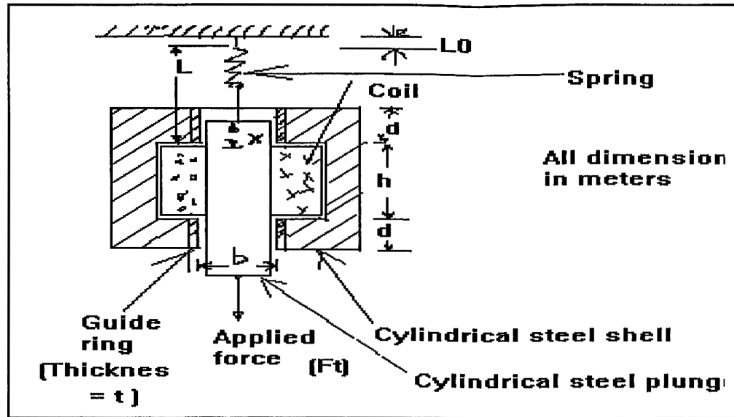

Fig.2
3. Cross section of a cylindrical solenoid magnet is shown in fig.2; which shows the cylindrical plunger of mass 'M' kg. moves vertically in brass guide rings of thickness 't' meter and mean diameter 'b' meter . The permeability of brass is the same as that of free space. The plunger is supported by a spring whose elastance is 'K' newtons/m. Its un-stretched